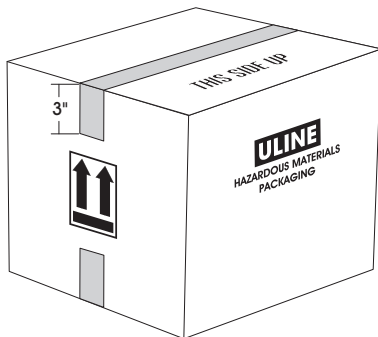

Figure 6
8. Seal top of carton down the center seam with one strip of 2" wide (2 mil) polypropylene tape (Uline Model # S-472). The tape must extend 3" over each end of the carton. (See Figure 6)